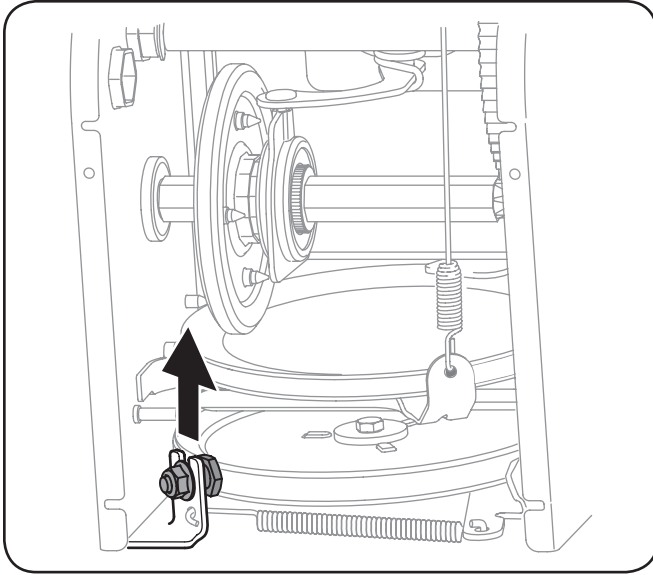

Figure 7-5
- Loosen and remove the shoulder bolt which acts as a belt keeper. See Figure 7-5.